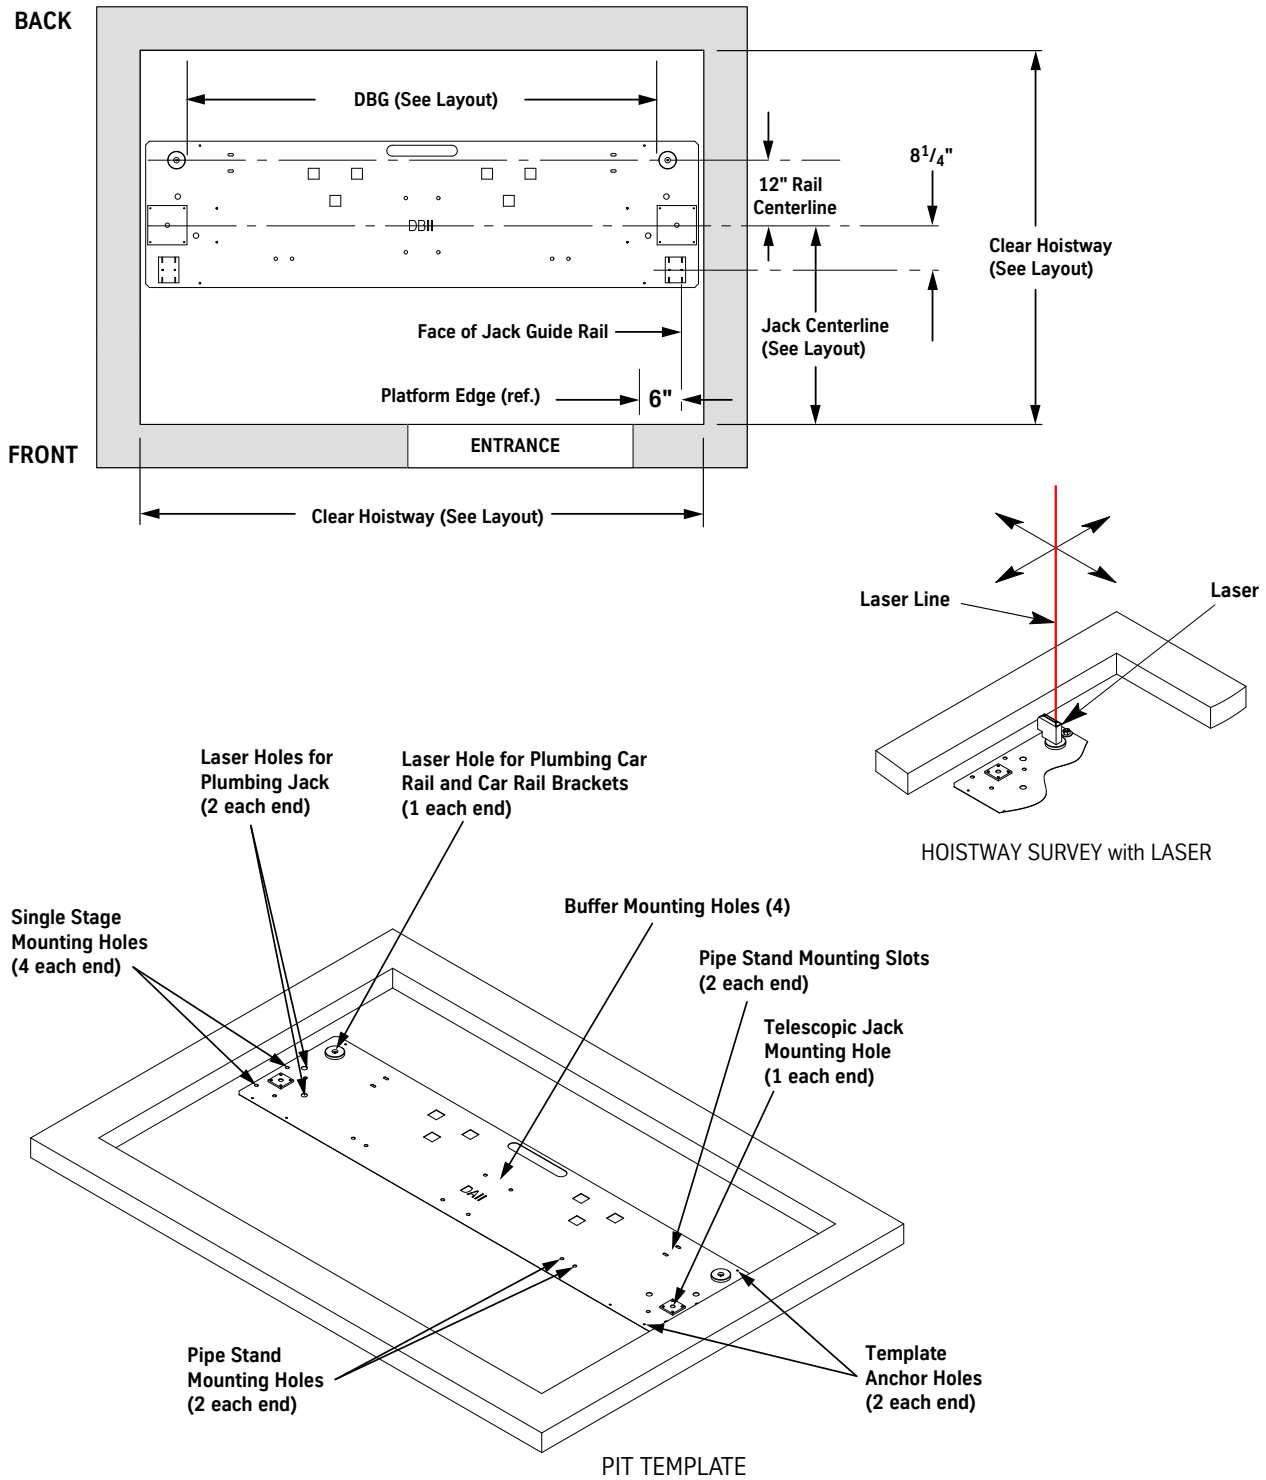

Figure 55 - Pit Template Hoistway Layout
4. Place a laser on each end of the template, and survey the hoistway. See Figure 55 on page 1-83.